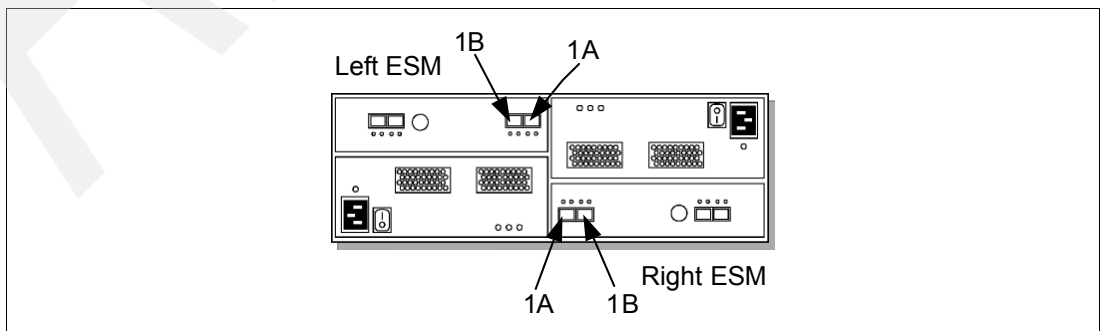

Figure 3-34 Port labels on EXP5000
- ▶ The DS5000 controller drive port must always be connected to the EXP5000 port labelled 1B. Because the left and right EXP5000 ESMs (ESMs A and B) are inserted in the ESM bays in different orientations, ensure that you use the port labeled 1B, as shown in Figure 3-34. This applies to the previous DS4800 and DS4700 with its expansion units in the same way. Port 1A is used to daisy-chain the next expansion units, which we refer to later in this section